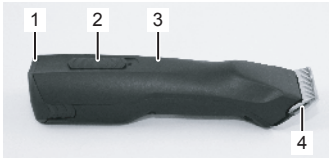

Fig. 1
3. Place the clipper, with the battery inserted, in the charging station so that the upper part of the clipper is facing towards you and the contacts on the clipper are resting against the contacts of the charging station. The part with the switch (Fig. 1) is the upper part of the clipper.